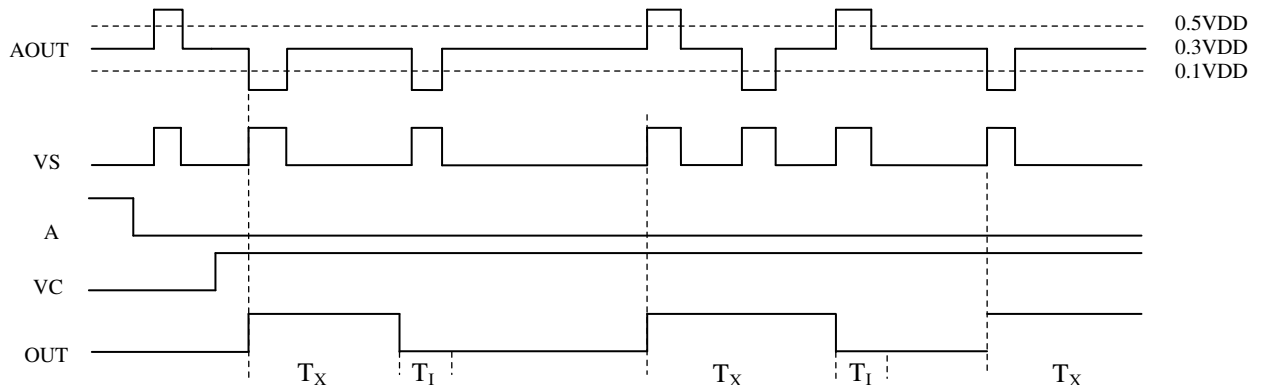

Fig3. Non-repetitive trigger
1. When A = VSS, operating mode is set to non-repetitive trigger, any changes in VS are ignored during T_X time until the end of the T_X time. Explanation is following by fig.3.